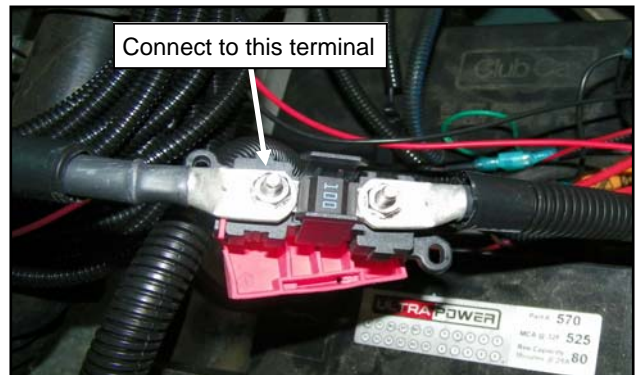

Fig. 5.3 (Connect to Alternator Harness Fuse)
- 5.3 In the engine compartment, connect the two small ring terminals on heater harness to the 100 Amp Fuse Terminal on the main power wire running from the alternator to the battery. This connection should be on one of the posts on the middle portion of wire so that it is fused from both the alternator and battery as shown on page 15 and Figure 5.3.